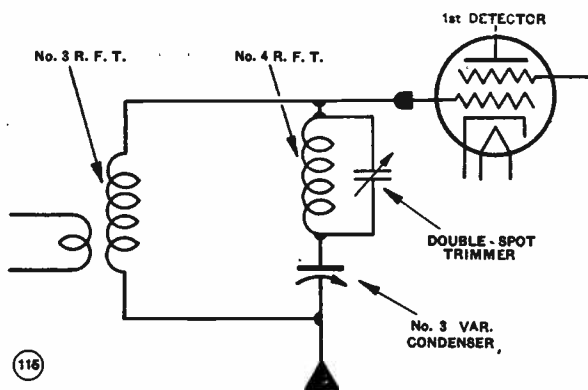

FIG. 266. THE DOUBLE-SPOT CIRCUIT IS SIMULTANEOUSLY TUNED TO TWO DIFFERENT FREQUENCIES
5. As the interfering signal that causes double-spot reception is always 260 K. C. more than the dial or pre-selector frequency, it is necessary to prevent any energy at this frequency from entering the 1st-detector. This is accomplished by the circuit arrangement shown in Figure 266.